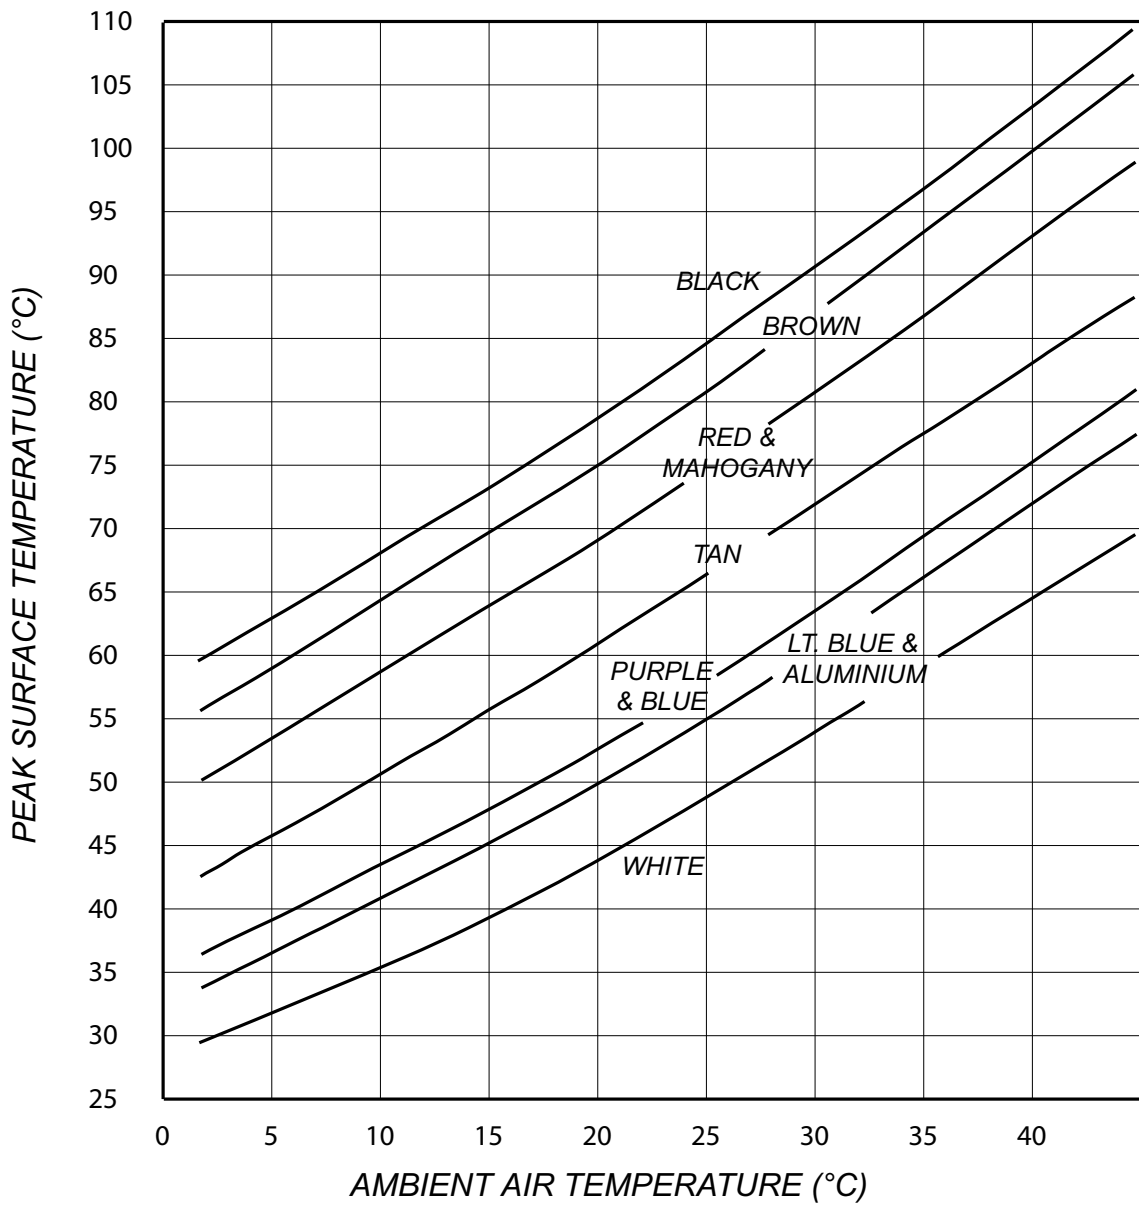

Figure 8-1 Effect of colour on surface temperature under sunlight.
4. Lighter coloured woods are more reflective than darker coloured woods, just as lighter coloured paints are far more reflective than are darker colours (*Figure 8-1*).
Alternative finishes are fully pigmented paints. Pigments filter out all or most of the harmful UV rays, thus protecting the substrate. However, a slow oxidation of the surface occurs over many years, causing it to lose its gloss. Light coloured paints are more reflective and maintain their gloss longer than darker colours. Protecting the substrate from heat is another important reason to choose lighter colours (*Figure 8-1*).